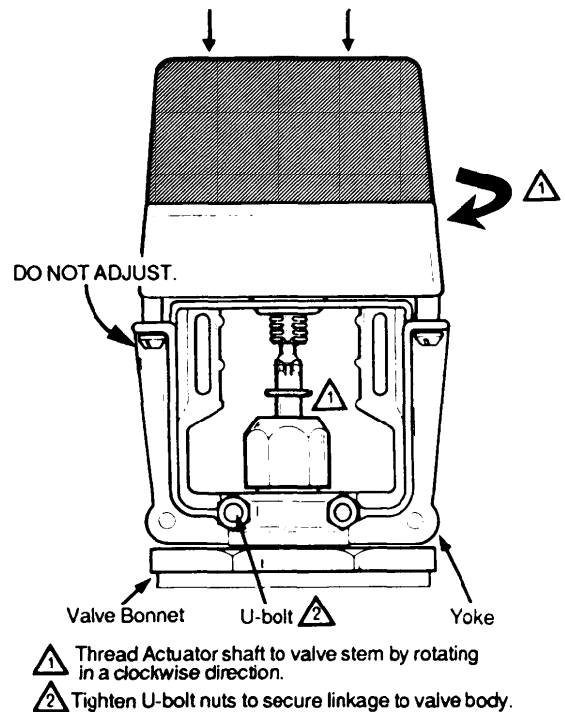

FIG. 4 -- ASSEMBLY OF ML7984 TO VALVE.
1. The drive shaft of the ML7984 has a threaded hole to link with the valve stem. Slide the yoke over the valve bonnet (Fig. 4)
3. Care should be exercised when using the TOOLS on the valve stem during tightening. (Fig.4) **DO NOT** damage the threads or other parts of the stem.